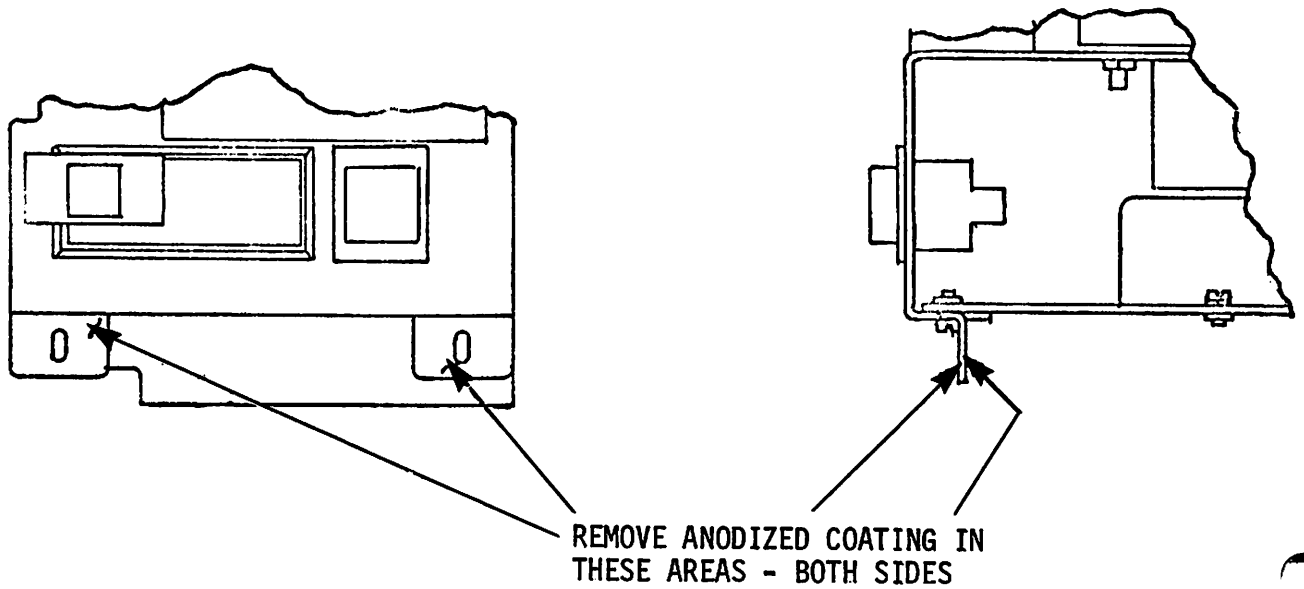

FIGURE 7
Relocate or install a new Power Driver Harness Clip as shown in Figure 7. Pull any slack from the power driver wires on the head positioner side of the clip, so that these driver wires do not run near the R/W head cables. Form wires as shown and place them in the relocated clip.
- g) Refer to Figure 7. Using a file or sandpaper, remove the anodized coating from both sides of the two power supply tabs.